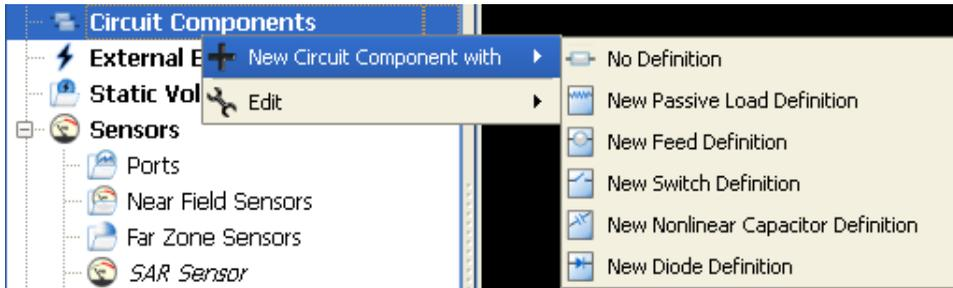

Figure 7.2: Accessing the Component Tools dialog from the Project Tree
**CIRCUIT COMPONENTS** are also added by right-clicking in the  **PROJECT TREE** as in Figure 7.2.